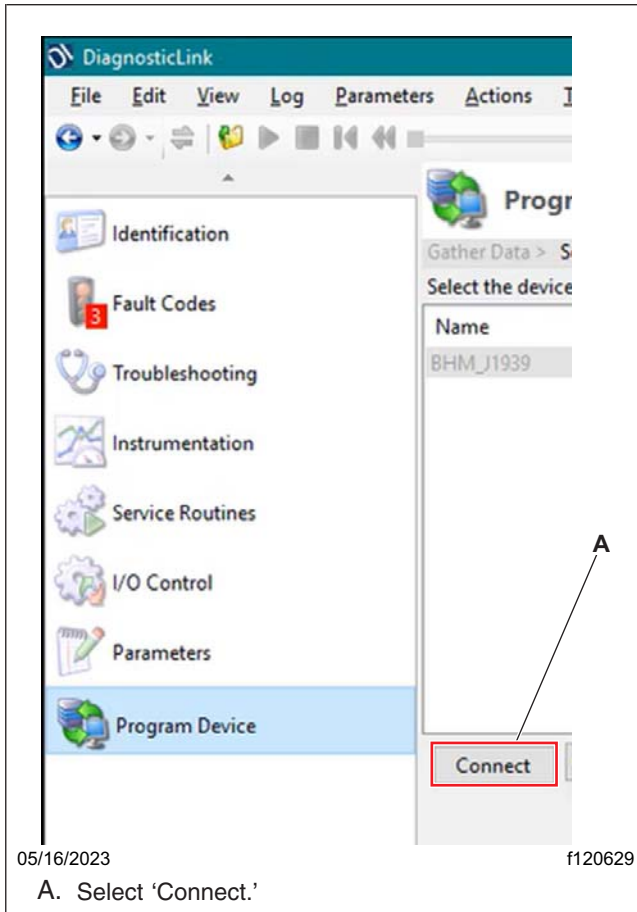

Fig. 10, Connecting to the BHM
13. Select the BHM, then select 'Connect.' See Fig. 10.